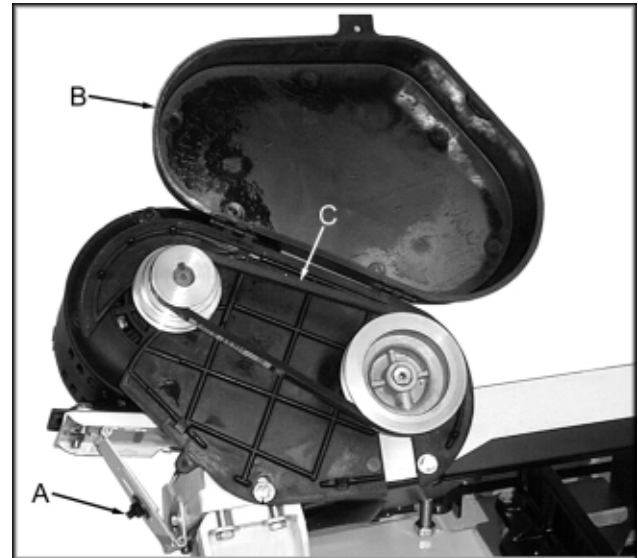

Fig. 10
3. Loosen tensioning plate hex nut (A, Fig.10).
4. Open pulley cover (B, Fig. 10). Lift motor with one hand while placing the belt (C, Fig. 10) on the desired pulley combination.
5. Tension belt by pressing down on the motor while tightening hex nut (A, Fig. 10) until finger pressure on the belt between the two pulleys causes approximately 1/2" deflection. Close pulley cover. Don't over tighten the belt.